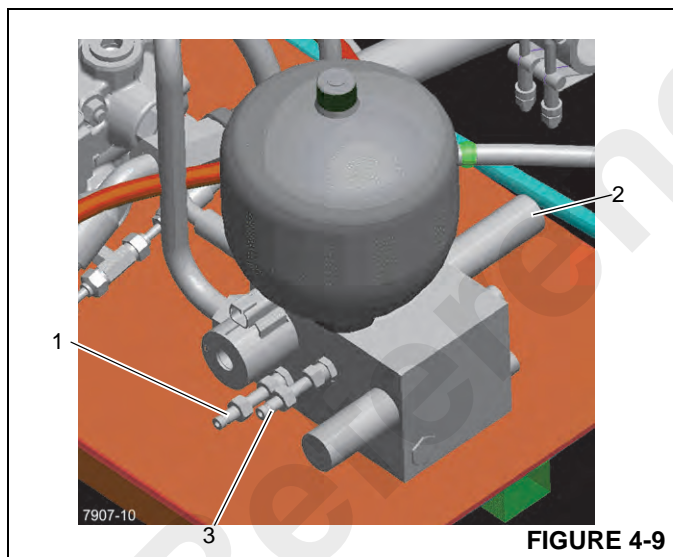

FIGURE 4-9
1. Install a 0 - 344.73 bar (0-5000 psi) pressure gauge on the G1 port (1, Figure 4-9) located on the brake/steering manifold.
6. Install a 0 - 344.73 bar (0-5000 psi) pressure gauge on the G2 port (3, Figure 4-9) located on the brake/steering manifold.
7. With the park brake on start the engine. Loosen jam nut on the UP10 pilot unloading valve (2, Figure 4-9). A 19 mm open end wrench is required for the jam nut.
8. Pump the brakes to lower the accumulator pressure below 110.32 bar (1600 psi). Keep pumping the brakes while another person adjusts the accumulator relief setting by turning the relief valve adjusting screw (2, Figure 4-9) until  $137.90 \pm 3.45$  bar (2000 psi  $\pm$  50 psi) is obtained on the pressure gauge; clockwise increases pressure, counterclockwise reduces the pressure. A 7mm hex wrench is required for the adjusting screw.